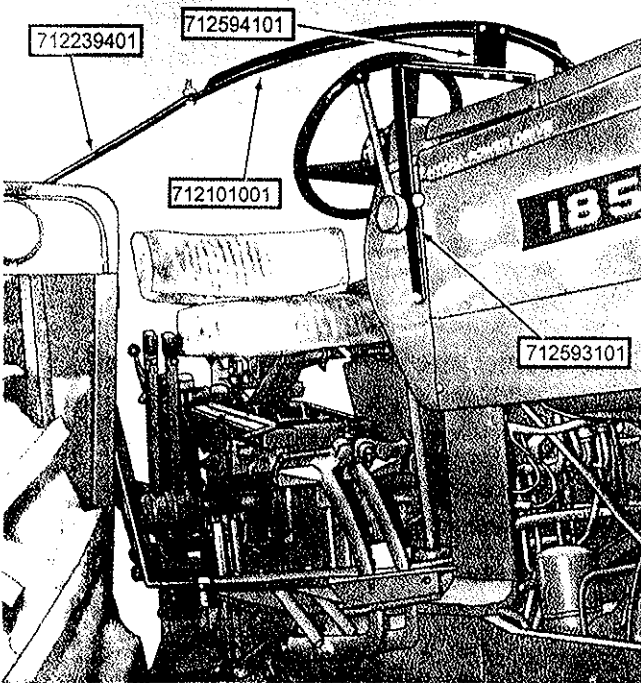

Figure 1
3. Bolt #712593101 saddle to tractor by removing 3/8" bolts from tractor. Use 3/8" x 1 1/2" bolts. On left side bolt #712594301 door post brace to tractor at same time. (See Figures 1 and 3).
4. Bolt #712594101 mounting bracket to saddle using 5/16" x 3/4" hex head bolts and nuts. Bolt bottom of #712594001 door post to platform using bolt in platform. (See Figures 1, 2 and 3).
5. Place cover over tractor, sliding the wide hem on left side over the door post. Insert #712239401 side arm in wide hem at right rear of cover. Bolt lower end to platform using 3/8" x 1 1/2" bolt and nut. (See Figure 1).
6. Insert #712101001 yoke in top hem of cover. Bolt yoke and door post brace to door post using 1/4" x 1" hex head bolts and nuts. Bolt yoke to mounting bracket using 1/4" x 3/4" flat head bolts and to side arm using 3/8" x 1 1/2" hex head bolt. (See Figures 1 and 2).